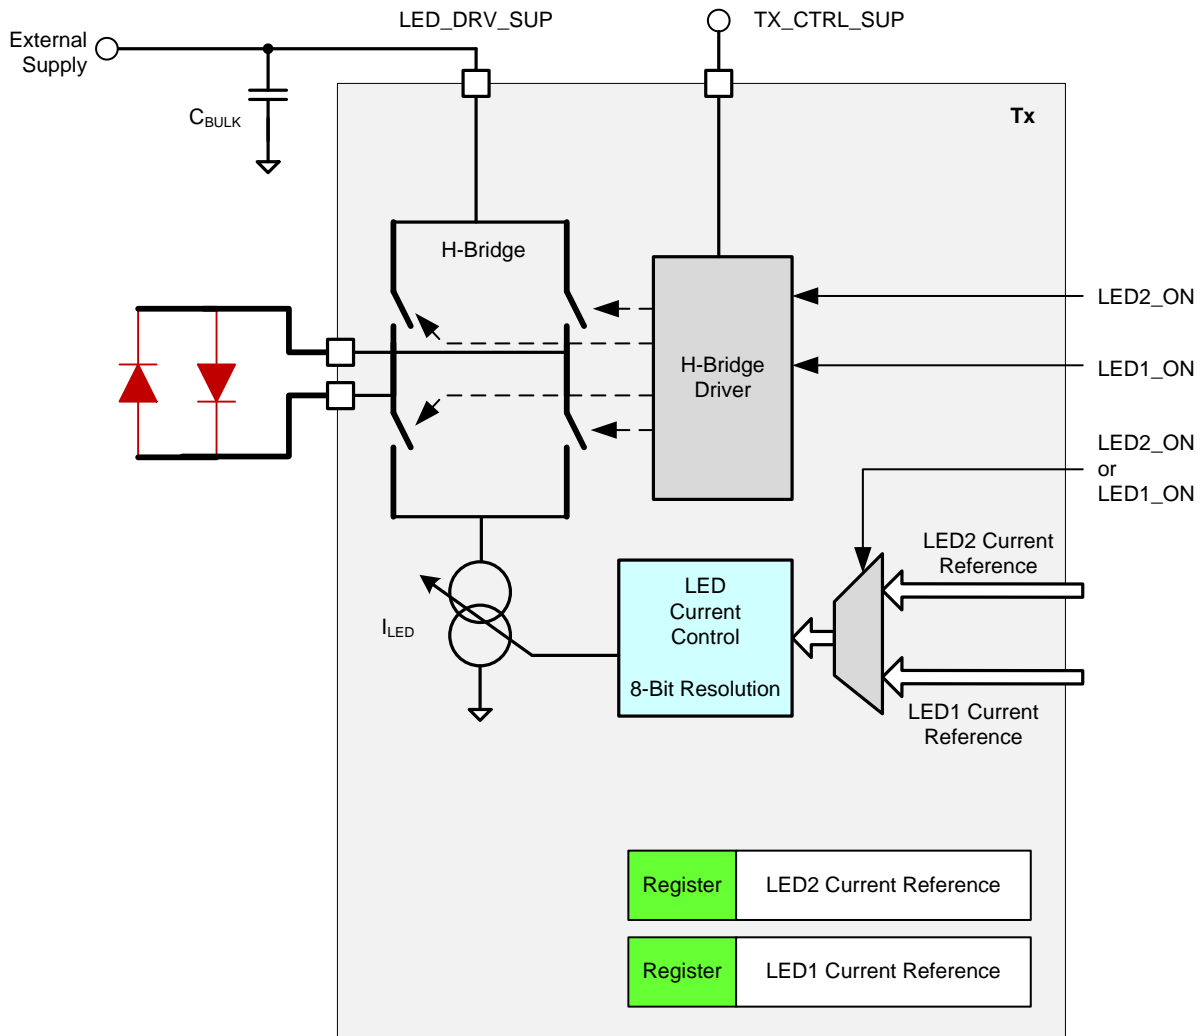

Figure 66. Transmit: H-Bridge Drive
- An H-bridge drive for a two-pin, back-to-back LED package, as shown in Figure 66.